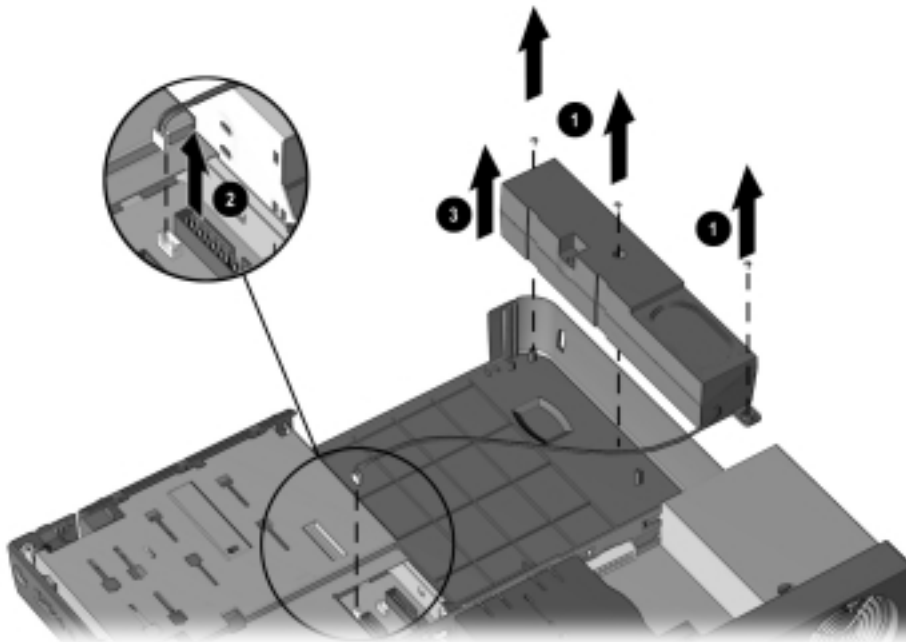

Figure 5-23. Removing the Left Speaker
6. Remove the three screws ❶ that secure the left speaker to the base assembly.
7. Disconnect the left speaker cable from the MultiBay ❷ (Figure 5-23).
8. Remove the left speaker ❸ from the base assembly.